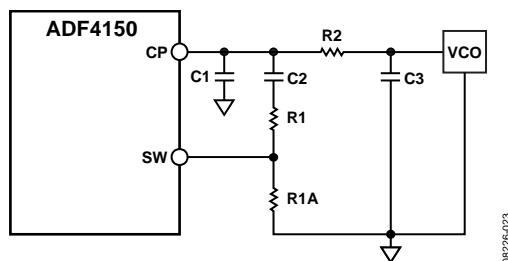

Figure 27. Fast Lock Loop Filter Topology—Topology 1
- The damping resistor (R1) is divided into two values (R1 and R1A) that have a ratio of 1:3 (see Figure 27).